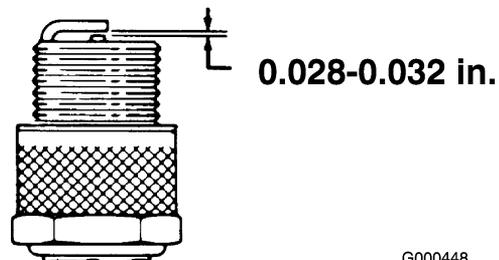

Figure 24
3. Set air gap at 0.028-0.032 in. (Figure 24). Install correctly gapped spark plug and tighten firmly to 17 ft.-lb.